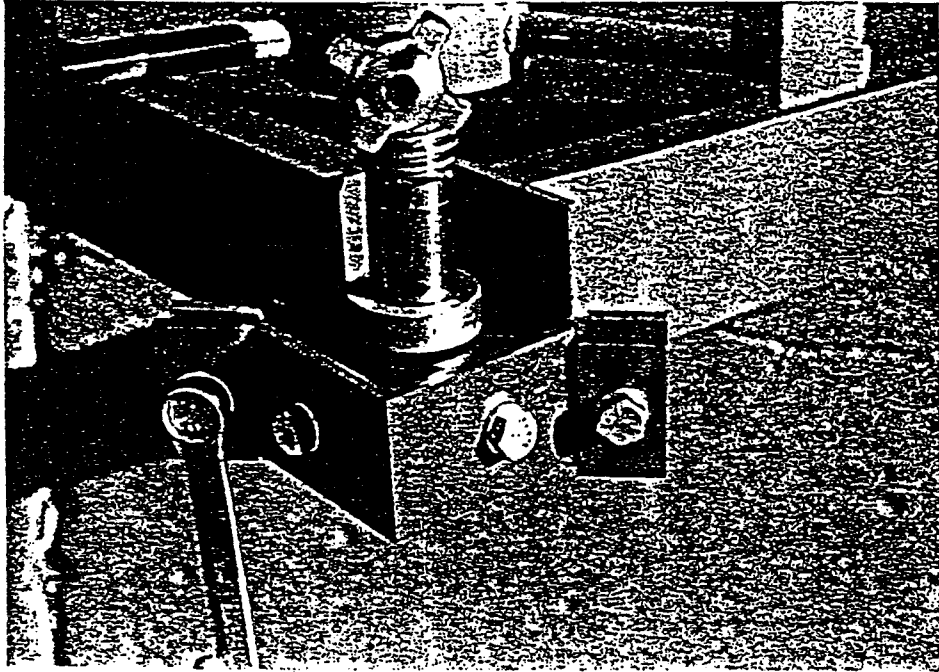

FIGURE 1
- 1.) Load a coil onto arbor remove the 2 bolts on each end of the arbor stand (See FIGURE 1).